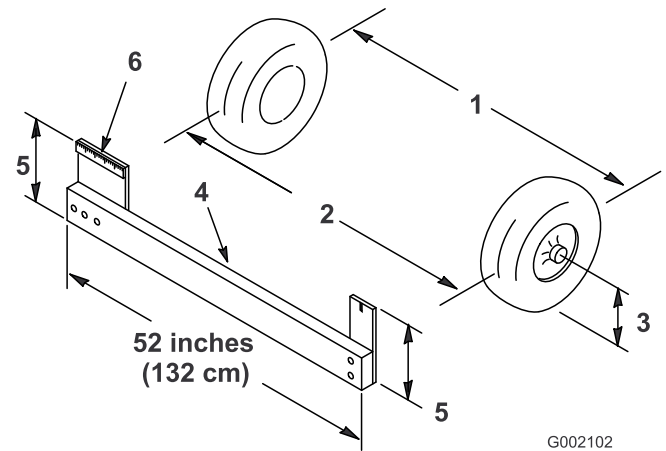

Figure 11
1. Measure the distance between both of the front tires at the axle height at both the front and rear of the front tires (Figure 11). A fixture or alignment gauge is needed for the rear measurement of the front tires at axle height. Use the same fixture or alignment gauge to accurately measure the front of the front tires at axle height (Figure 11).